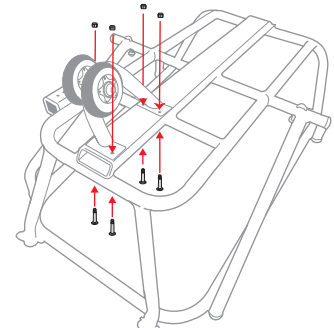

Figure 2
2. Insert the four bolts through the top of the Frame Assembly and Front Wheel, then screw the four nuts onto the bolts (Figure 2).